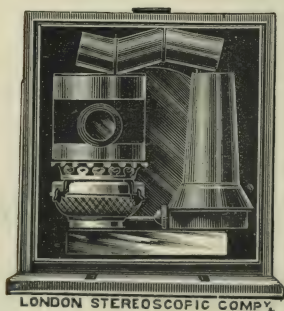

Fig. 3.
refixed on the lower studs, so that the base is made perfectly rigid. The sliding body A (Fig. 1) is then pulled right out, and the lamp and chimney (as shown in Fig. 3) removed. The sliding body is at once replaced, and the lamp fitted together and slipped into the grooves (BB) provided on the rear baseboard. The cistern of the lamp should be nearly filled with the best kerosine or other good mineral oil, and the wicks carefully adjusted to the same height. The lamp must then be lighted, and allowed to burn for ten minutes or so; this is necessary, as on first lighting the lamp the condensers will be covered with moisture, which will disappear as soon as they are thoroughly warm. While this warming process is going on, a drawing board, preferably covered with white paper, and of sufficient size to hold the sensitive plate or paper, should be fixed upon an easel, or hung upon the wall of the dark room in such a position as to be exactly parallel with the front of the apparatus, and at such a height as will bring the centre of the paper, when in position, exactly opposite the centre of the lens.